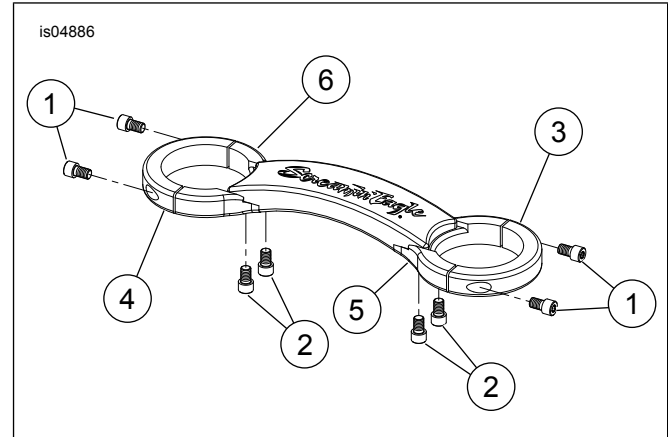

Figure 1. Service Parts: Screamin' Eagle Fork Brace Kit
See Figure 1 and Table 1.
1. See Figure 1. Insert the brace between fork tubes. Spread the brace to fit tight to the fork tubes and take note of the spacing. Remove the fork brace and tighten screws (2).
3. Install the end caps (3 and 4) using screws (1).